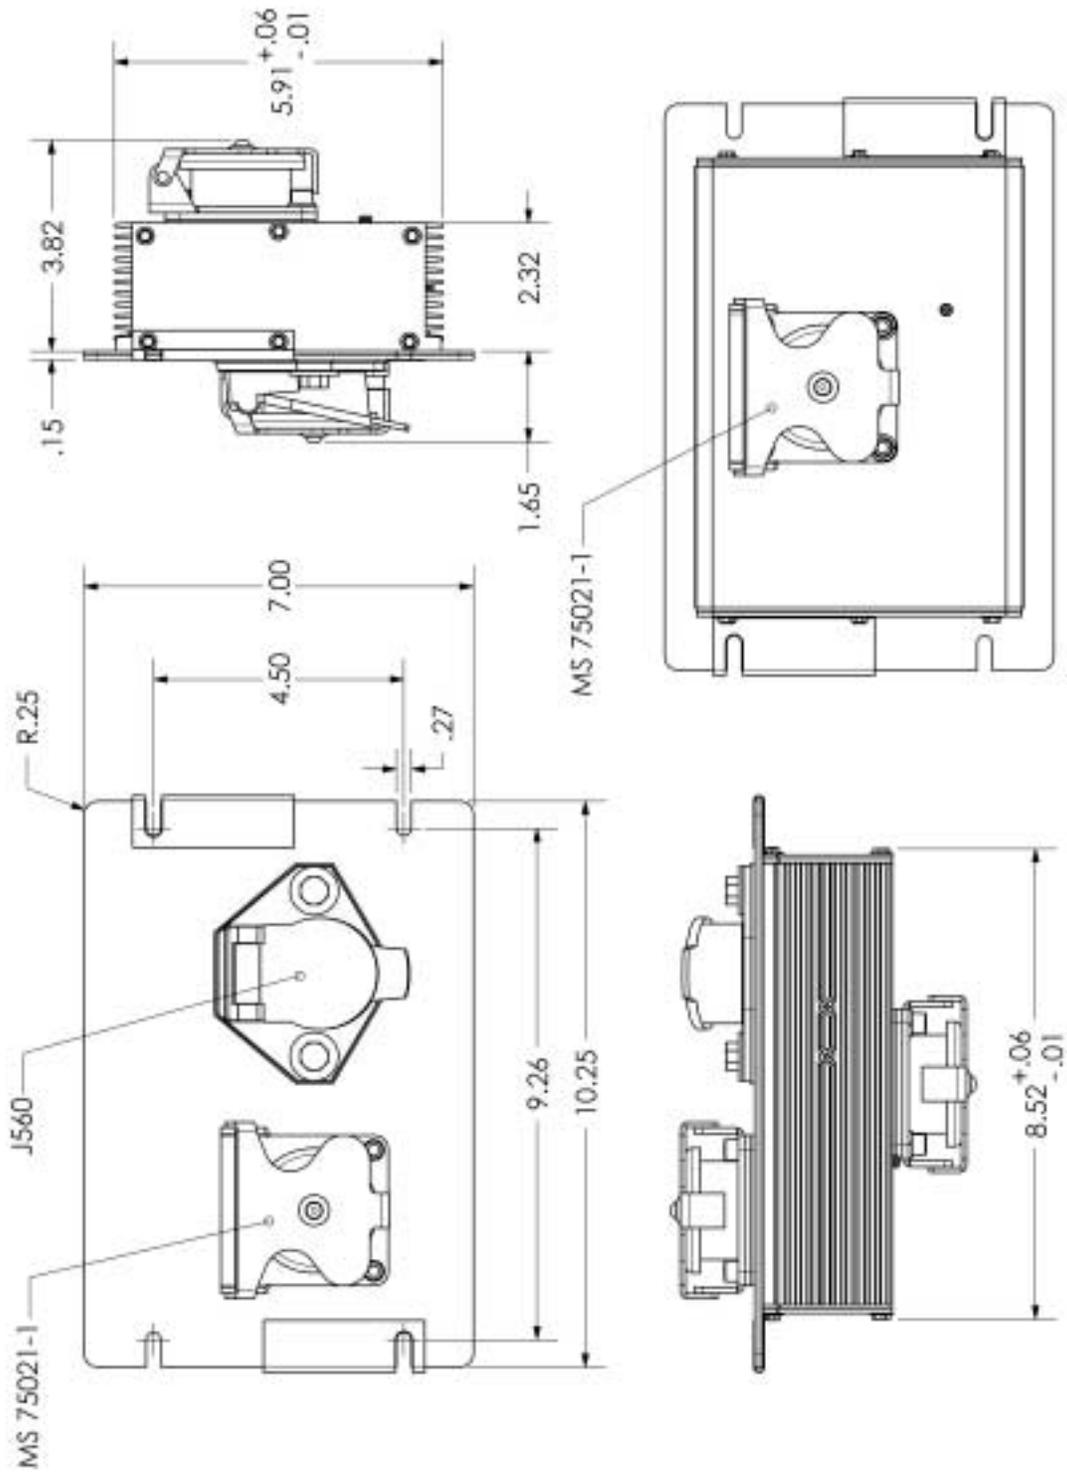

Figure 2 – Package Dimensions
1. The module shall be mounted to a rigid, electrically grounded member of the trailer using an appropriate grade of electrically conductive mounting bolts. See Figure 2 for mounting dimensions.